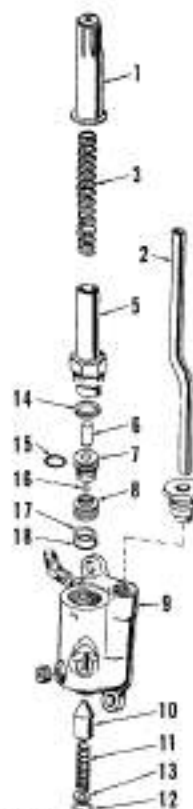
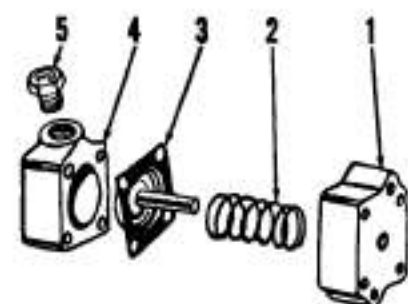

Fig. 196—Exploded view of pressure control valve.
Fig. 197—Exploded view of pressure control diaphragm.
**210. PRESSURE CONTROL VALVE AND DIAPHRAGM.** The pressure control valve shown exploded in Fig. 196 serves the dual purpose of providing pressure relief for the main hydraulic pump during normal operation and providing weight transfer for added traction when using some types of pulled or mounted implements.
The servo piston (7) and matched sleeve (8) connect the control diaphragm assembly (Fig. 197) to control passage of pressure valve. When servo piston is against stop pin in valve body (9—Fig. 196) the diaphragm passage is open to open to reservoir. As pressure builds up in lift cylinder circuit and piston (7) moves upward against spring pressure,
Relief valve (10) is preset at a slightly higher pressure than diaphragm return spring (2—Fig. 197). The valve provides a safety relief passage if diaphragm plunger malfunctions or system is improperly adjusted.
To disassemble the pressure control valve, refer to Fig. 196 and proceed as follows: Withdraw adjusting tube (1) and spring (3), then unscrew and remove pilot (5). Using needlenose pliers, carefully withdraw guide (7). Remove piston seat (8) using a hooked wire. Relief valve (10) and spring (11) can be removed after removing snap ring (12).